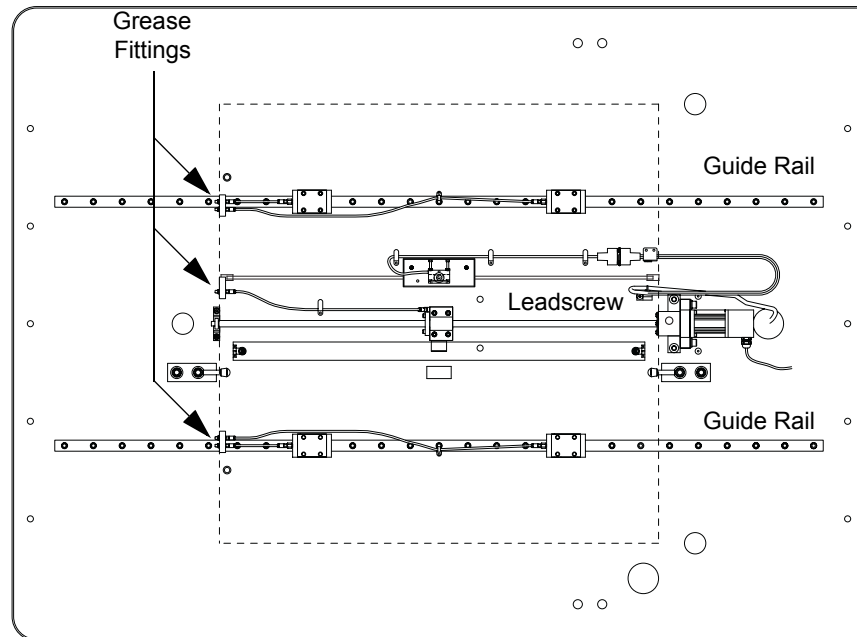

Figure 6-6 Y-Axis Guide Rails
Refer to Figure 6-6 as you proceed through this section:
10. Apply new lubricant for the guide rails and leadscrew via the grease fittings; see Figure 6-6.